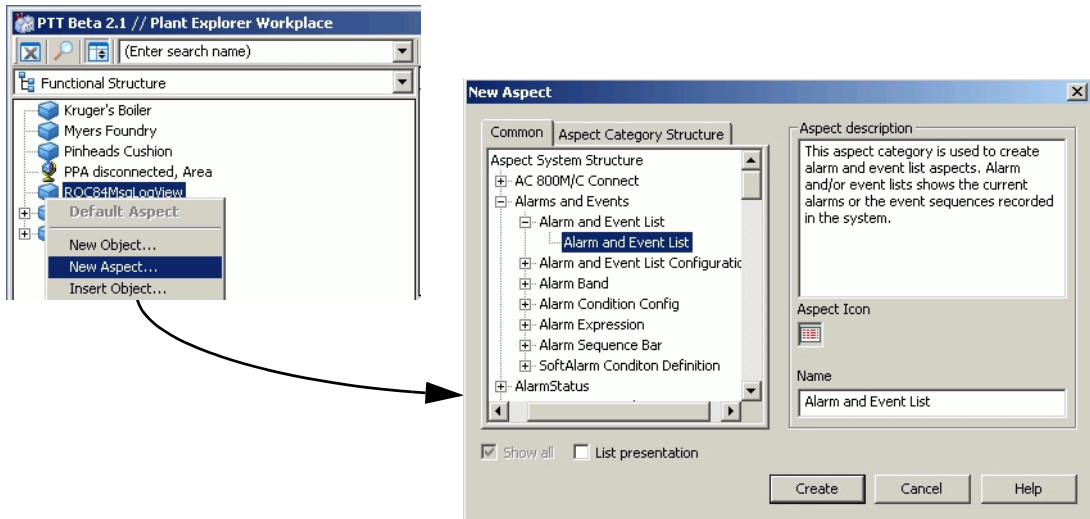

Figure 98. Adding the Alarm and Event List Aspect
- a. The **Alarm and Event List** aspect is located under the Alarm and Events category in the New Aspect dialog, Figure 98.